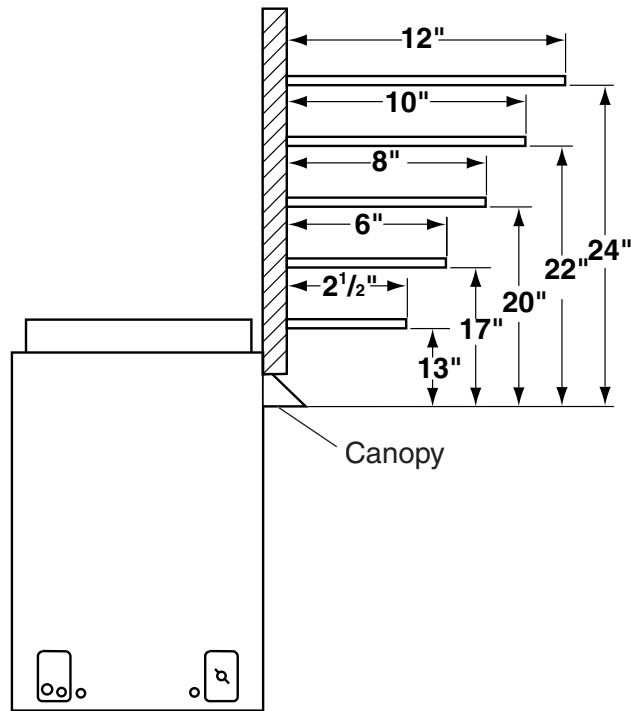

Figure 5 - Minimum Mantel Clearances
5. **Mantel clearances** — The canopy supplied with the unit must be installed. If a combustible mantel is installed, it must meet the clearance requirements detailed in *Figure 5*.